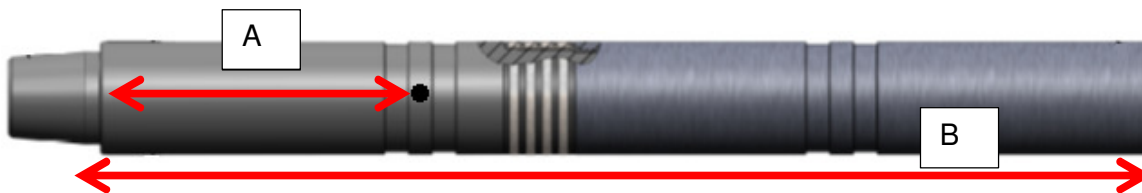

Figure 32 Gap sub with Distances
2. Measure the distances on the Gap sub as shown in Figure 32 below before each run:
- (A) Distance from the Set screw to the bottom of the Gap sub.
- (B) Total length of the Gap sub